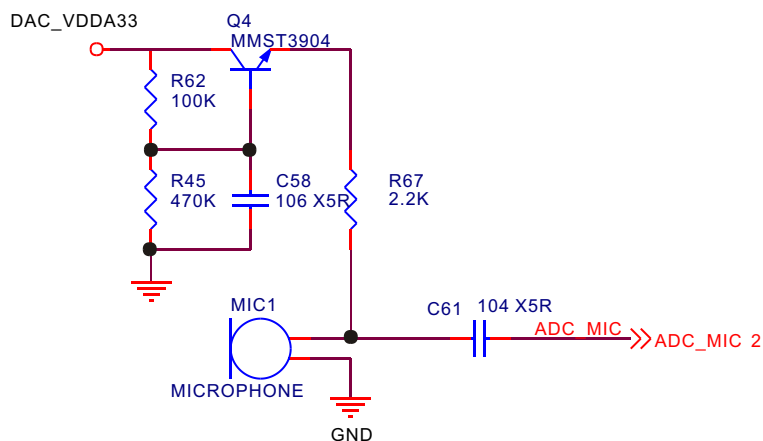

Figure 3.2.11.1 Microphone circuit diagram
1. Microphone circuit is shown in the figure 3.2.11.1: